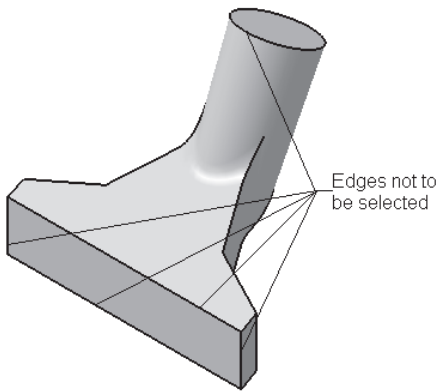

Figure 6-83 Edges not to be selected
4. Select all edges of the model, except the edges that are shown in Figure 6-83.